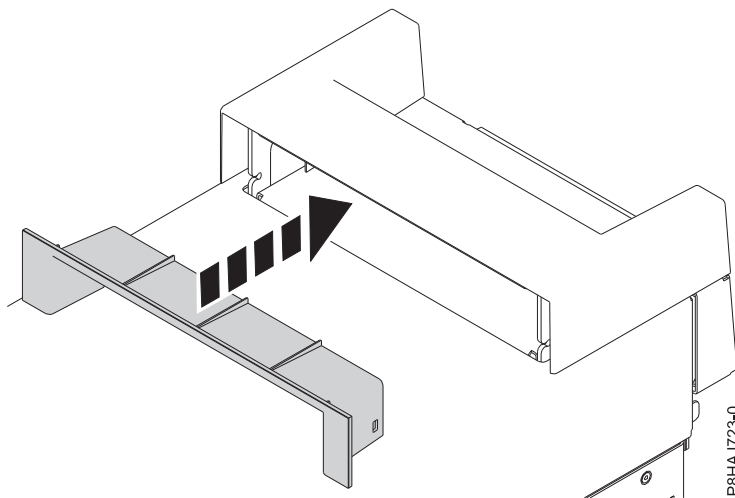

Figure 25. Inserting the piece within the handle cover on an 8286-41A stand-alone system
2. Insert the piece within the handle cover by pushing it firmly into the handle cover as shown in Figure 25.